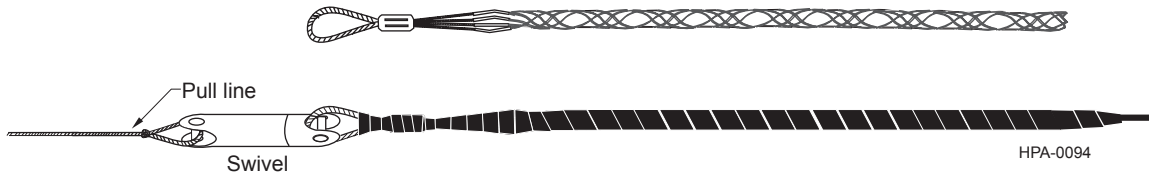

Figure 5 - Wire mesh pulling grip and installed grip with swivel
1. For cables which are not preterminated, Corning Optical Communications recommends the use of a wire mesh pulling grip to provide effective coupling of pulling loads to the jacket, aramid yarn, and central member of fiber optic cables. The use of a swivel between the pull-line and pulling grip is required to prevent the pull-line from imparting a twist to the cable (Figure 5). For instructions on field installation, refer to SRP-005-044, Installing a Wire Mesh Pulling Grip on ALTOS® Fiber Optic Cable.